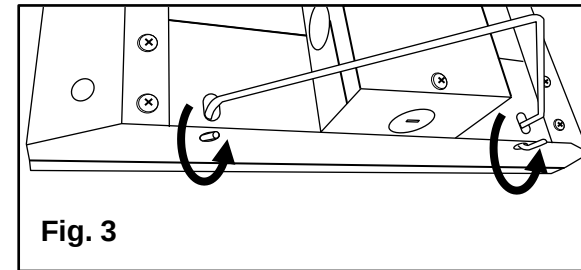

Fig. 3
6. Hook the **hangers** into the **oblong holes** in the back of the fixture and through the **round holes** on the end of the fixture. [Fig. 3]